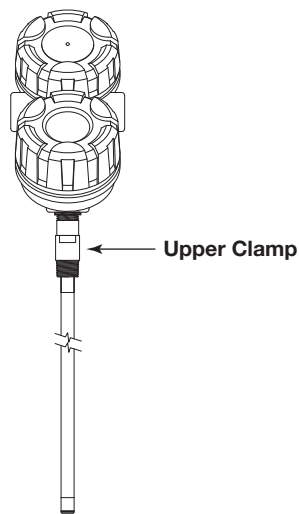

Figure 2
4. The upper clamp will need to be open to a large enough diameter to be able to mount to the MLI as well as the probe. The upper clamp should be positioned just above the $\frac{3}{4}$ " NPT threads. See Figure 2.